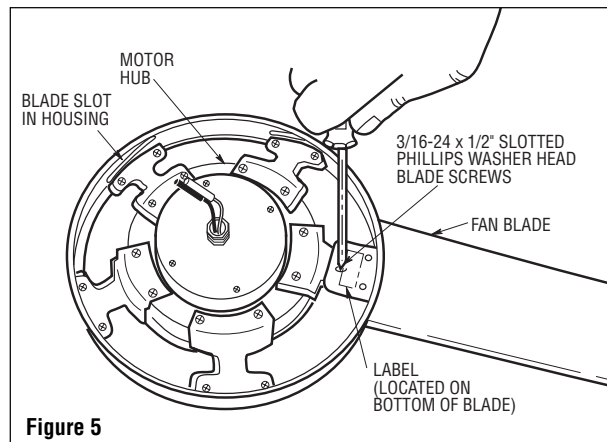

Figure 5
10. To ensure proper blade assembly, make sure the label on the blades are facing the bottom of the ceiling fan. Slide blade through center slot in fan housing. Mount blades to fan housing using three 3/16-24 x 1/2" slotted Phillips washer head blade screws on each blade (Figure 5).